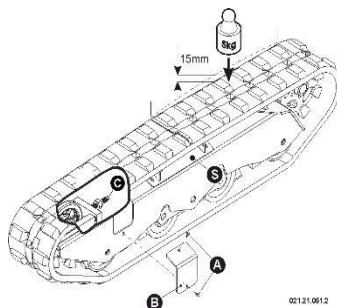

fig. 5.5 - Track Tension Adjustment
- Check that the deflection is 15 mm near the front or rear midpoint relative to the central guide "S" of the track (see fig. 5.5);
- Check that the deflection is 15 mm near the front or rear midpoint relative to the central guide “S” of the track (see fig. 5.5);